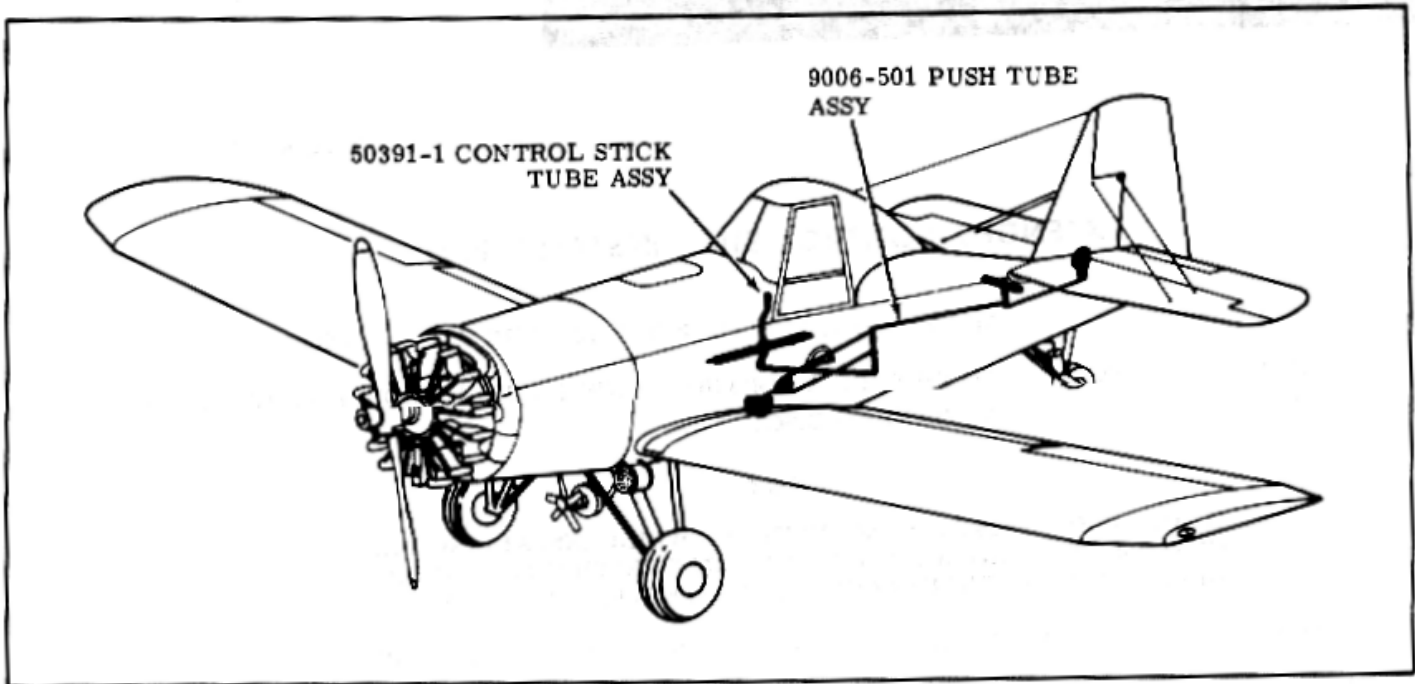

Figure 1.
- 2 Remove existing center push tube assembly and install 9006-501 push tube assembly using existing hardware (see Figure 1).